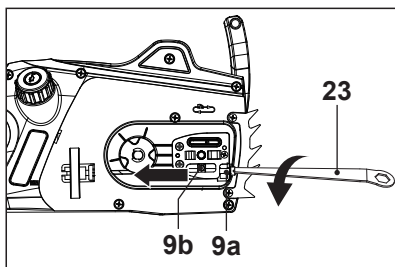

Fig. 1a
- 2). Place the product on a suitable flat surface with the front handle (1) facing upward.
- 3). Loosen the retaining nut (6) with the spanner (23) and remove it together with the cover (7).
- 4). Ensure the tension pin (9b) is positioned to the left side, adjust it turning the tension screw (9a) anticlockwise with the multitool (23) if required (Fig. 1a).